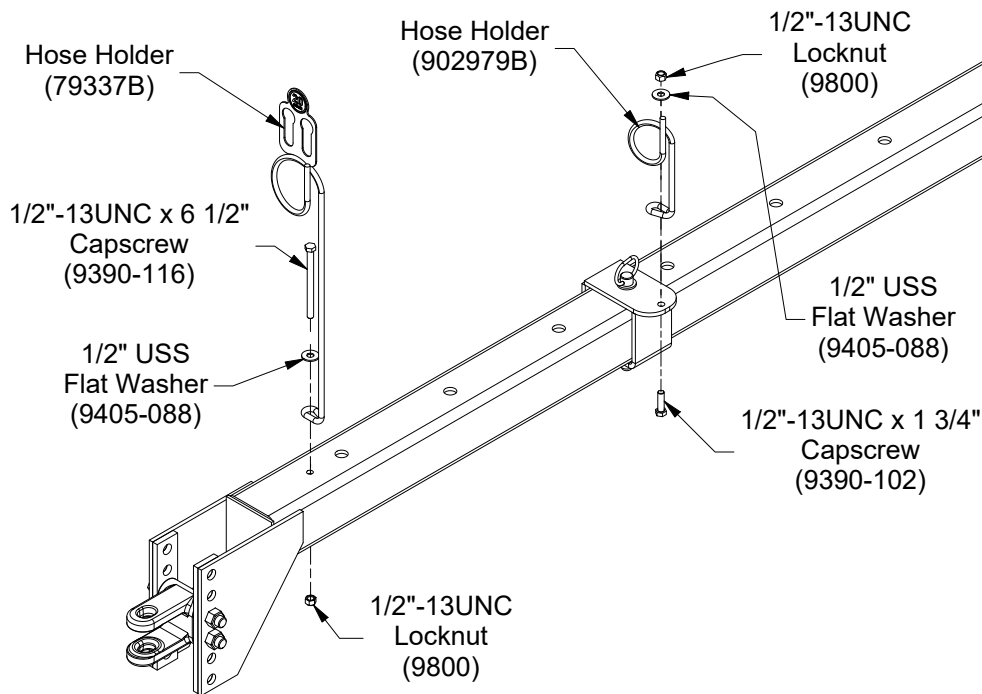

FIG. 2-50
1. Locate hose holder (79337B), 1/2"-13UNC x 6 1/2" capscrew (9390-116), 1/2" flat washer (9405-088) and 1/2"-13UNC locknut (9800) in the hydraulic base parts bundle. Locate and remove hose holder (902979B), 1/2"-13UNC x 1 3/4" capscrew (9390-102), 1/2" flat washer (9405-088) and 1/2"-13UNC locknut (9800) attached to the front of the hitch assembly. Assemble parts onto hitch (FIG. 2-50).